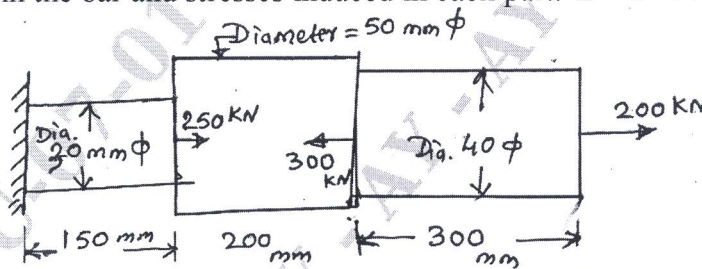

Fig. Q1 (c)
c. A stepped bar is subjected to axial forces as shown in Fig. Q1 (c). Determine total deformation in the bar and stresses induced in each part. $E = 2 \times 10^5 \text{ N/mm}^2$.